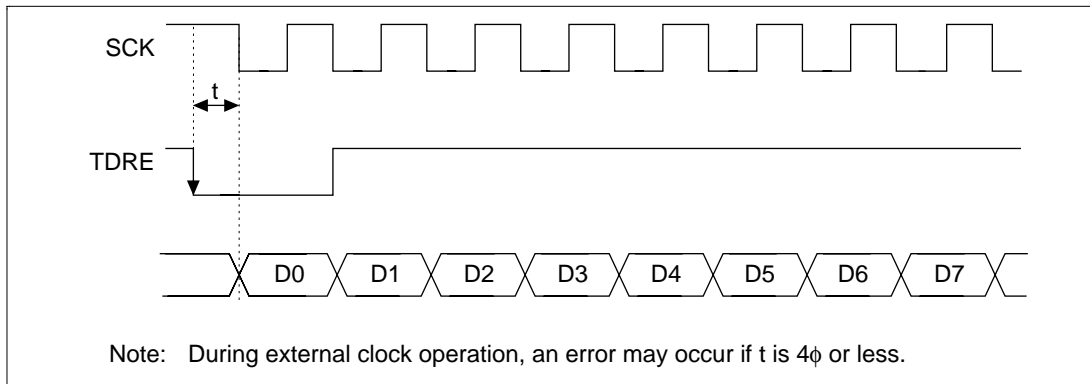

Figure 12.24 Example of Clock Synchronous Transmission with DMAC
- When using an external clock source for the synchronization clock, update the TDR with the DMAC or the DTC, and then after five system clocks or more elapse, input a transmit clock. If a transmit clock is input in the first four system clocks after the TDR is written, an error may occur (figure 12.24).